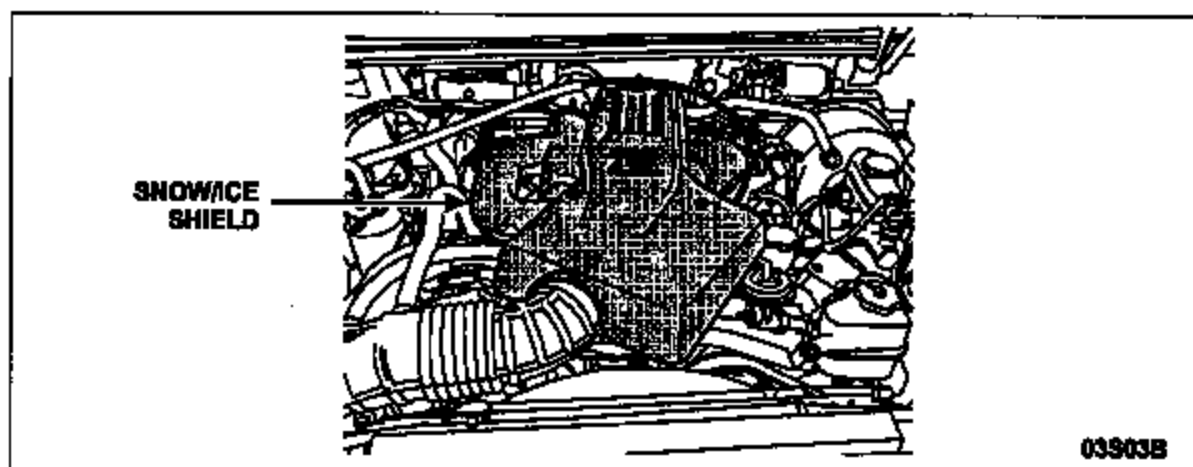

FIGURE 2
2. Remove the snow/ice shield. See Figure 2.